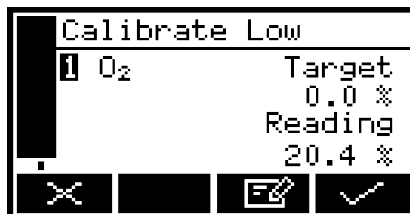

Figure 21: The Calibrate target value screen
5. Press the  soft key. The Calibrate target value screen will then be shown (see Figure 21), identifying the target value and the current reading.
- + Cross-interference compensation is disabled during calibration, and is not applied to the values shown in Figure 21.